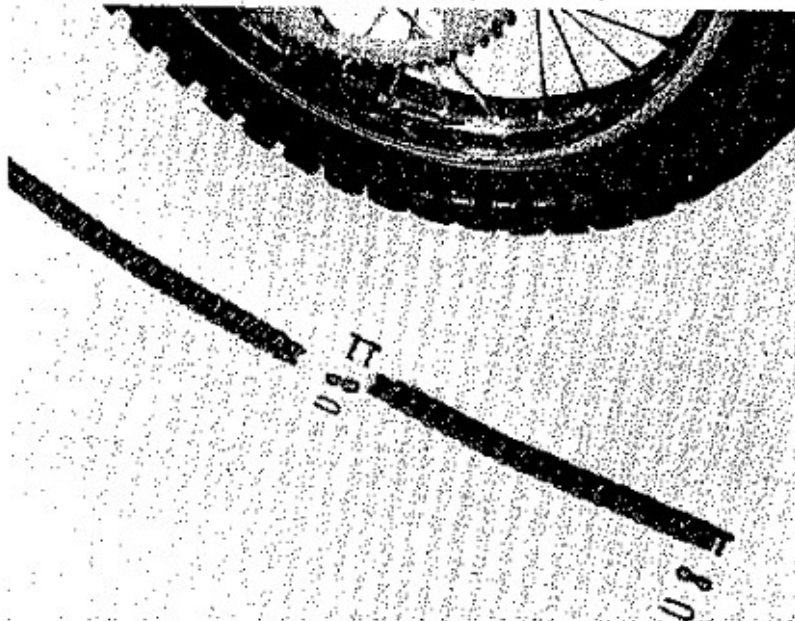

Fig. 42
7. Join the spare chain with the driving chain with the connecting link (Fig. 42)